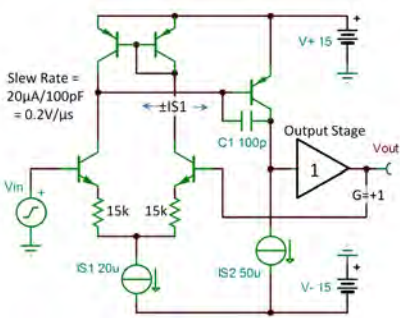

Figure 50: A large change in the input signal creates an output slewing condition.
If the input step is large enough, the accelerator is jammed to the floor. More input will not make the output move faster. (Figure 50 shows why in a simple op amp circuit.) With a constant input voltage to the closed-loop circuit, there is zero voltage between the op amp inputs. The input stage is balanced, and the current I_{S1} splits equally between the two input transistors. With a step-function change in V_{IN} greater than 350 mV for this circuit, all of the I_{S1} current is steered to one side of the input transistor pair. That current charges (or discharges) the Miller compensation capacitor, $C1$. The output slew rate (SR) is the rate at which I_{S1} charges $C1$, equal to $I_{S1}/C1$.
Large-signal square waves with very fast edges tilt on the rising and falling edges according to the slew rate of the amplifier. The final portion of a rising or falling edge will have rounding as the amplifier reaches its small-signal range, as shown in Figure 50.